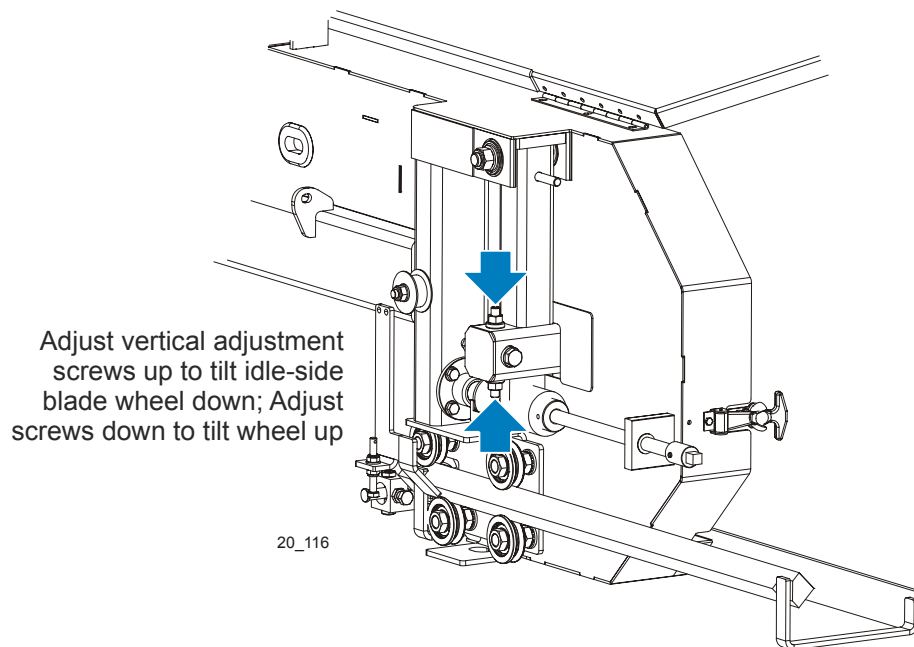

**FIG. 6-4**
**See Figure 6-4.** Use the vertical adjustment screws to adjust the drive-side blade wheel. To tilt the wheel, loosen the top adjustment screw one quarter turn. Loosen the jam nut on the bottom adjustment screw and tighten the screw. Tighten the top and bottom jam nuts.